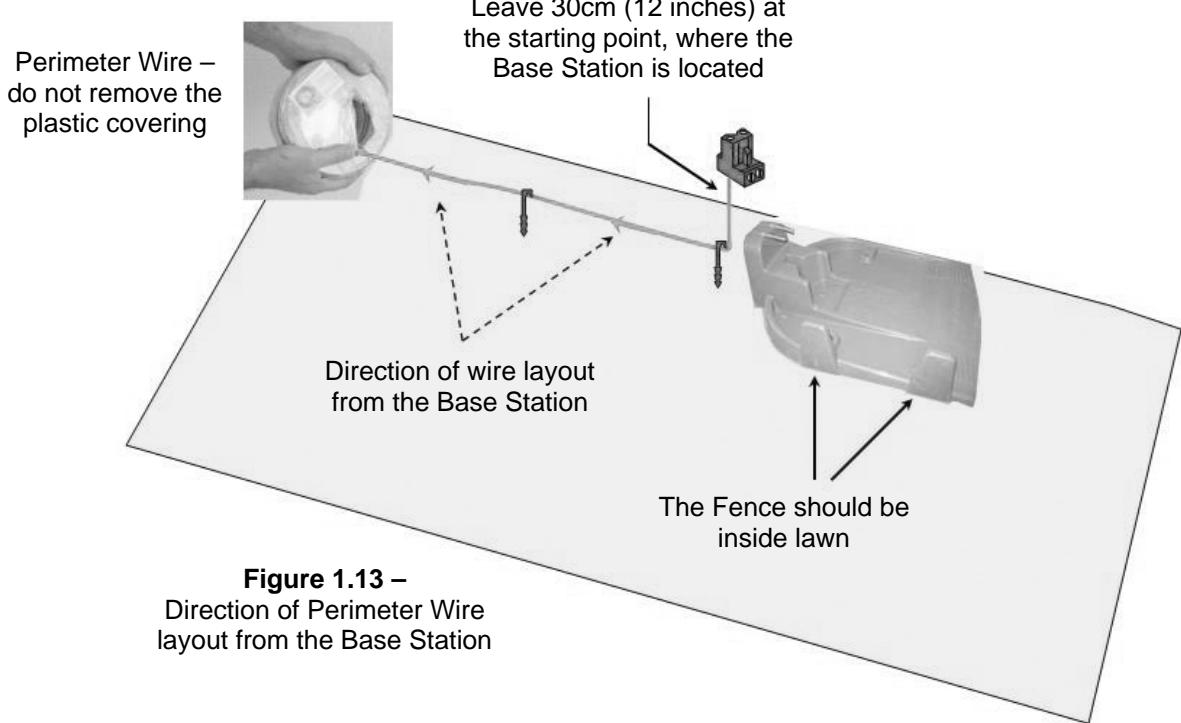

Figure 1.13 –
- Place the Base Station concomitantly to the lawn edge on the lawn where the fence faces towards the inner side of the lawn (Figure 1.13).
- Peg the beginning of the wire to the ground where the Base Station will be located; be sure to leave 30cm (12 inches) to close the loop at the end of the setup (Figure 1.13);
- Start laying the wire to the counterclockwise direction when standing inside the lawn, as shown in Figure 1.13.
- Begin pulling the perimeter wire out of the plastic covering and lay it loosely as you walk along the area of the lawn to the direction shown in Figure 1.13;